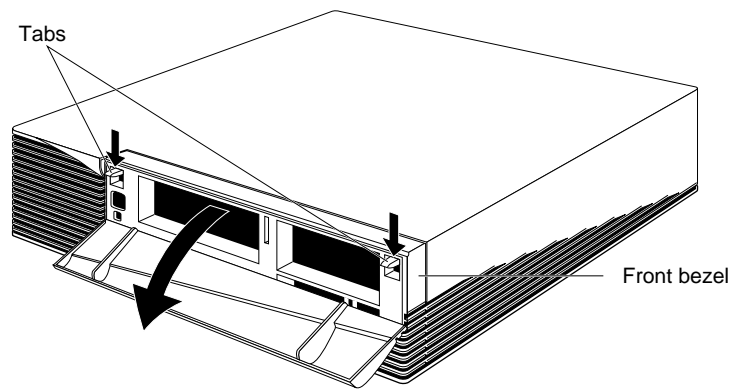

Figure 1-4 Removing the Front Bezel from the Indigo² Chassis
- Press down on the tabs on each side of the bezel, as shown in Figure 1-4.